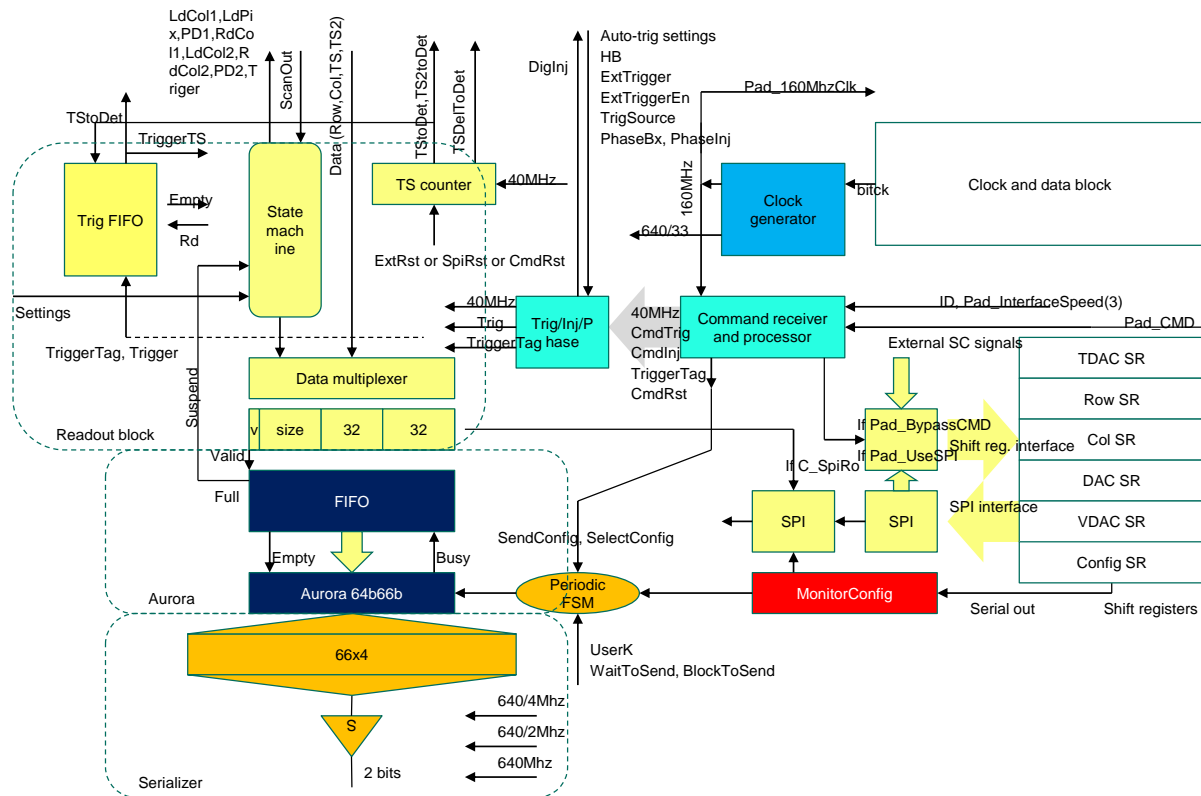

Figure 6: block scheme of the main control unit (CU)
Figure 6 shows block scheme of the main control unit (CU). The figure also shows the shift registers of ATLASPIX3 (TDAC-, Row-, Col-, DAC-, VDAC- and Config.-SR) and the Clock and Data Block.